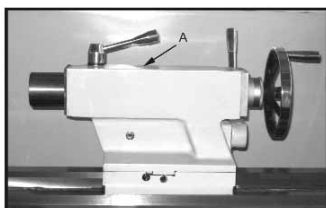

Fig. 8
8. **Tailstock**: Lubricate one ball oiler (A, Fig. 8) on top of tailstock with Mobil DTE® Oil Heavy Medium oil daily.